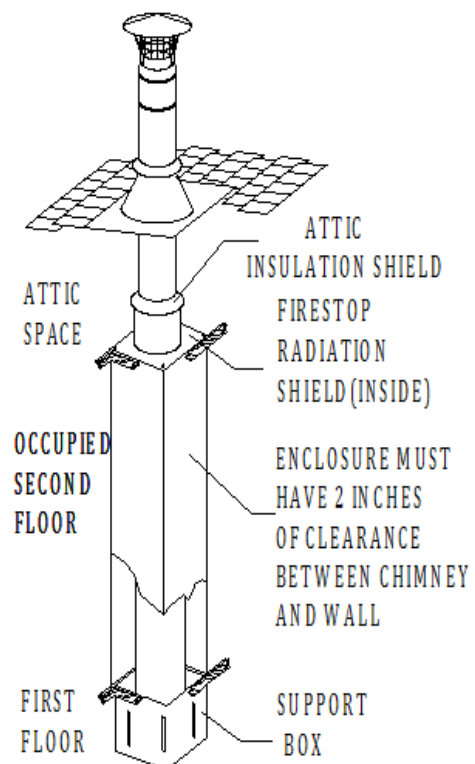

Fig.2
**Through Rooms:** Interior chimneys shall be enclosed where they extend through closets, storage areas, occupied spaces, or any place where the surface of the chimney could be contacted by persons or combustible materials. The space between the outer wall of the chimney and the enclosure shall be at least 2 inches (Fig 2).